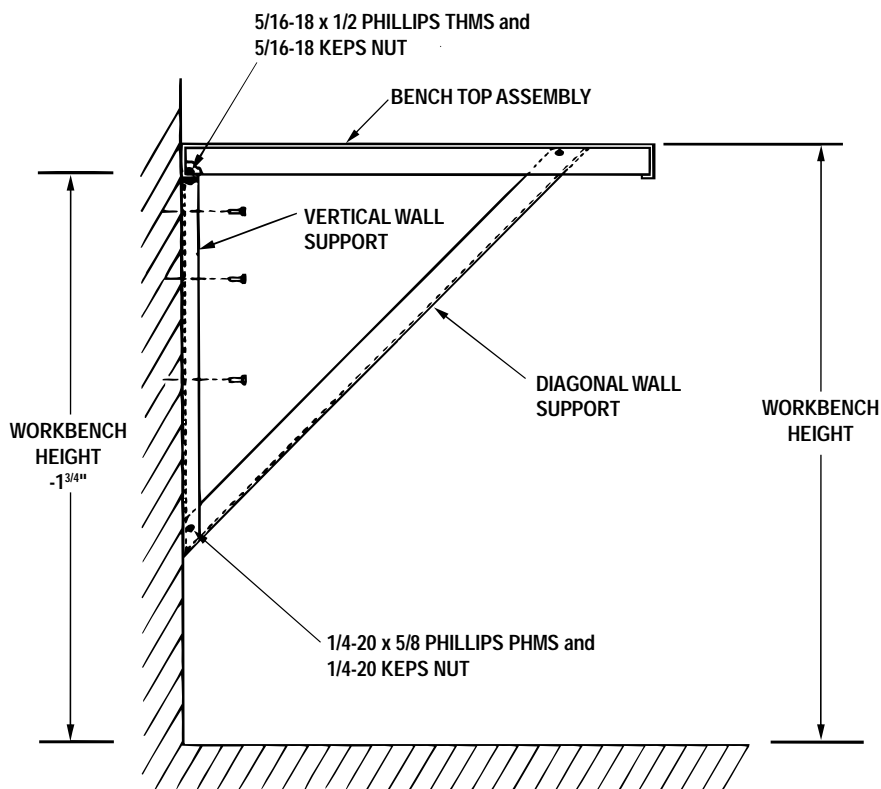

FIGURE 1
1. Bolt bottom of diagonal and vertical wall supports together using (2) 1/4-20 x 5/8 Phillips PHMS and nuts.
2. Position wall support assembly at desired height as shown in Figure 1 using desired worksurface height minus 1-3/4". Mark holes using vertical channel as a template. Lag to wall using suitable 3/8-16 fastening device (not included).